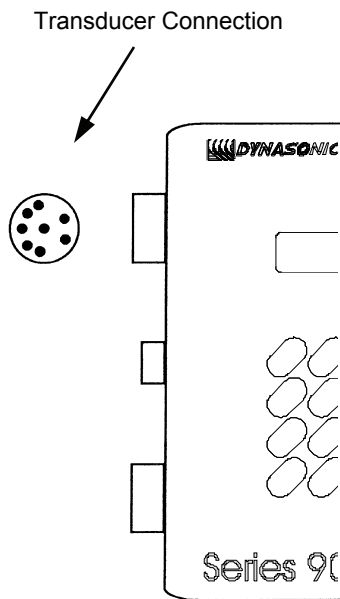

Figure 3
2. Connect the transducer cable connector plug to the corresponding connector socket located on the side of the D902/3 enclosure. See **Figure 3**.